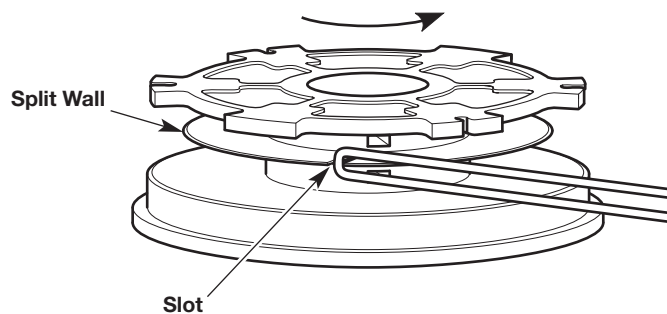

Fig. 17
2. Insert the loop into the slot in the split wall (Fig. 17). Wind the line tightly in the direction shown on the bottom of the inner reel until about 6 inches (150 mm) of line remains. Keep the top half of the line above the split wall and the bottom half of the line below the split wall.